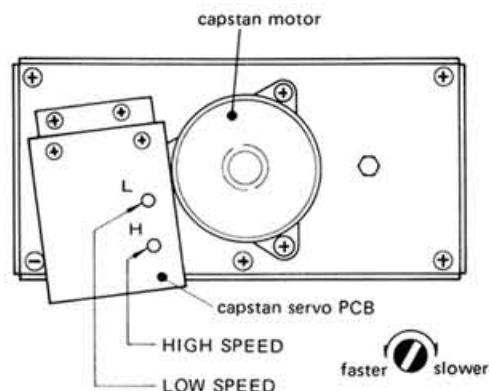

Fig. 2-25
3. Play the tape. Adjust HIGH SPEED control (see Fig. 2-25) for a reading of 3,000Hz ±5Hz.